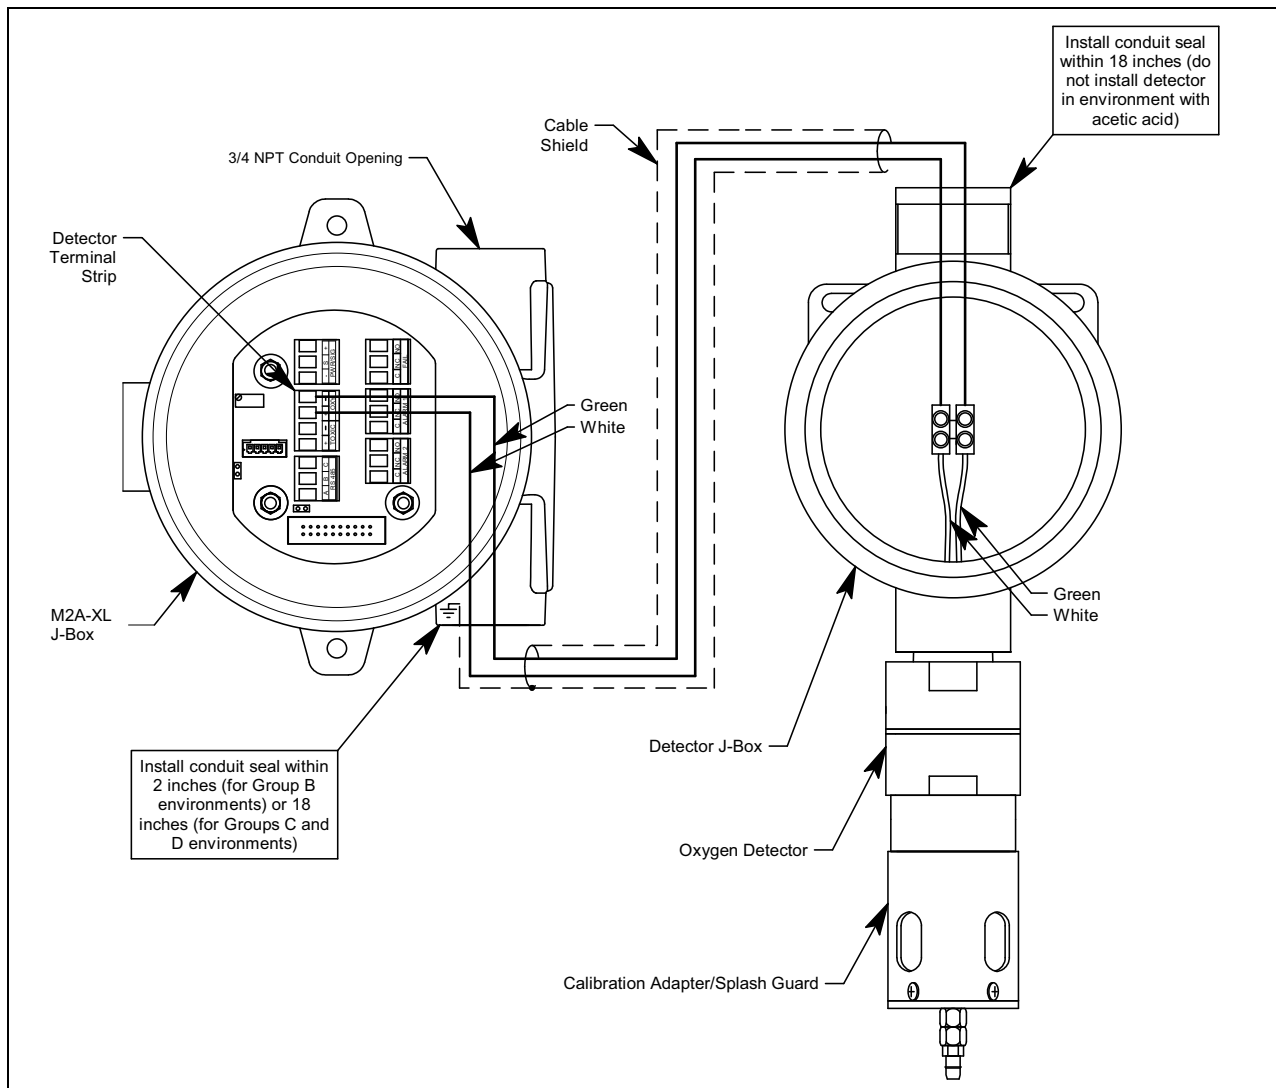

Figure 8: Wiring the Detector to the M2A-XL
7. To maintain the explosion proof classification of the junction boxes, conduit seals must be installed as shown in Figure 8. Adhere to your local electrical code when installing the conduit seal.
14. Pull out the detector terminal strip and connect the two wires to the terminal strip as follows (see Figure 8).
- To maintain the explosion proof classification of the M2A-XL junction box, a conduit seal must be installed within 2 inches (for Group B environments) or 18 inches (for Groups C and D environments) of the M2A-XL's left conduit hub, in addition to the conduit seals shown in Figure 8. Adhere to your local electrical code when installing the conduit seal.